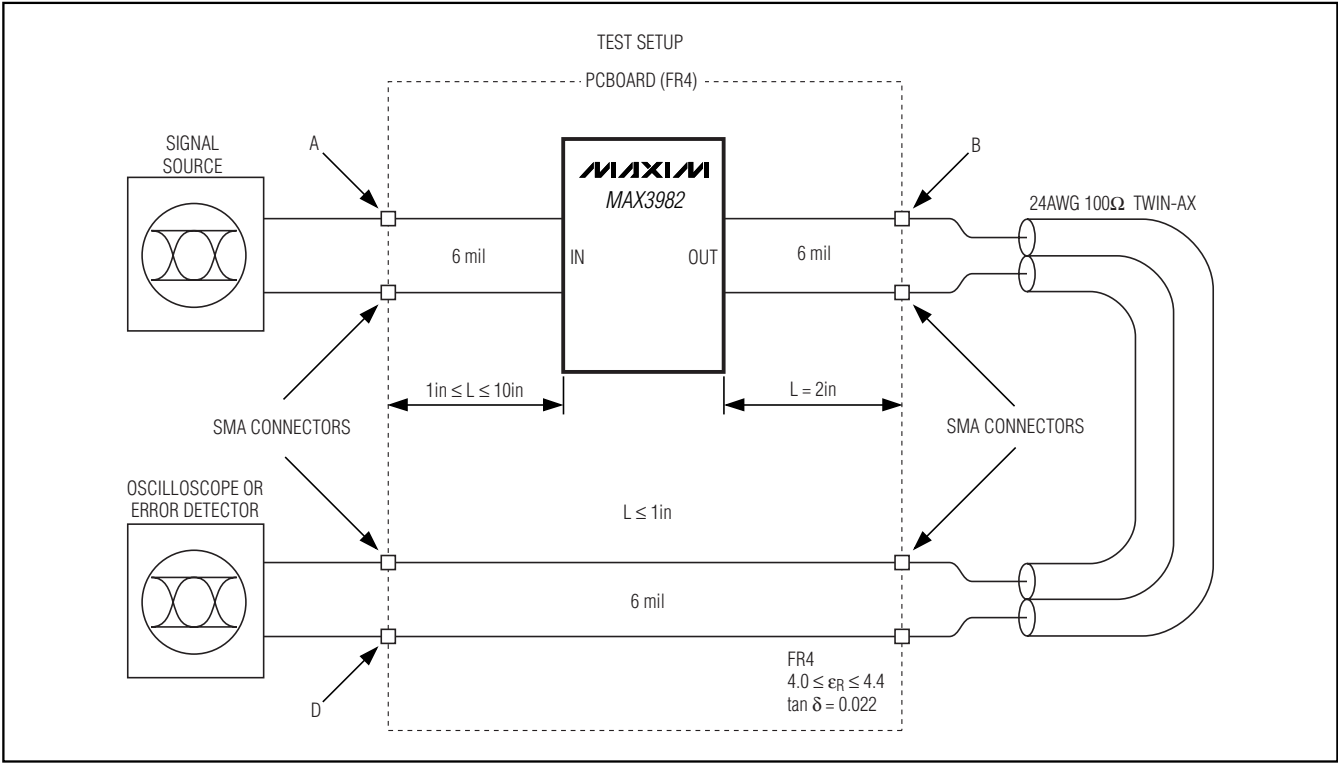

Figure 2. Test Setup. The points labeled A, B, and D are referenced for AC parameter test conditions. Deterministic jitter and eye diagrams measured at point D.
| Input Swing                                                                     |                                 | Measured differentially at point A of Figure 2 (Note 1)                                        |                                 |     |      | 600 |      | 2000              | mV P-P |
| Differential Output Swing                                                       |                                 | Measured differentially at point B of Figure 2 (Notes 1, 2)                                    | TX_DISABLE = low, OUTLEV = high |     | 1450 |     | 1800 | mV P-P |                   |
| Common-Mode Output                                                              |                                 | (OUT+) + (OUT-), measured at point B of Figure 2; TX_DISABLE = low, OUTLEV = high (Notes 1, 2) |                                 |     |      |     |      | 60                | mV P-P |
**Note 3:** Measured at point B in Figure 2 using 0000011111 at 1Gbps. PE1 = PE0 = 0 for minimum preemphasis. For transition time, the 0% reference level is the steady-state level after four zeros, just before the transition. The 100% reference level is the maximum voltage of the transition.
**Note 5:** Cables are unequalized, Amphenol Spectra-Strip 24AWG. Residual deterministic jitter is the difference between the source jitter at point A, and load jitter at point D in Figure 2. The deterministic jitter at the output of the transmission line must be from media-induced loss and not from clock-source modulation.